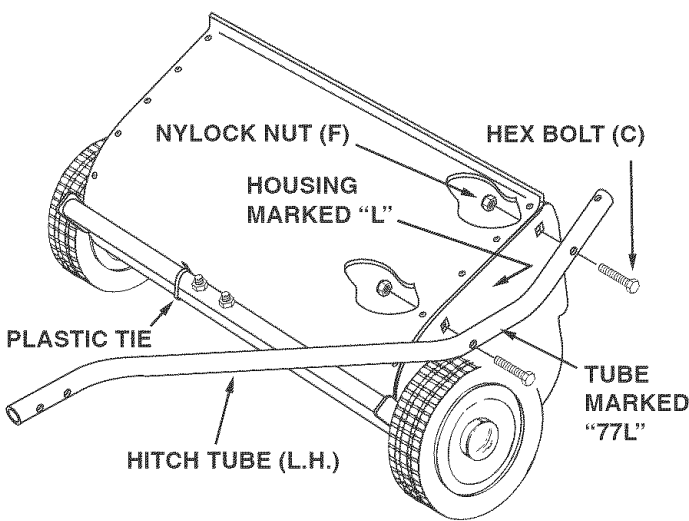
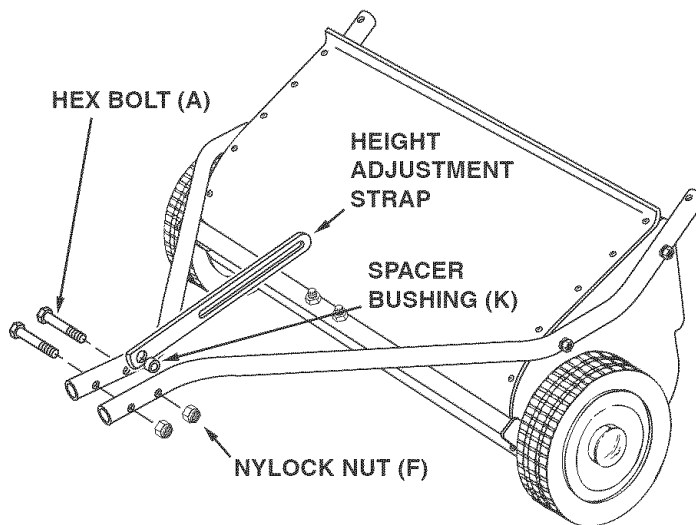
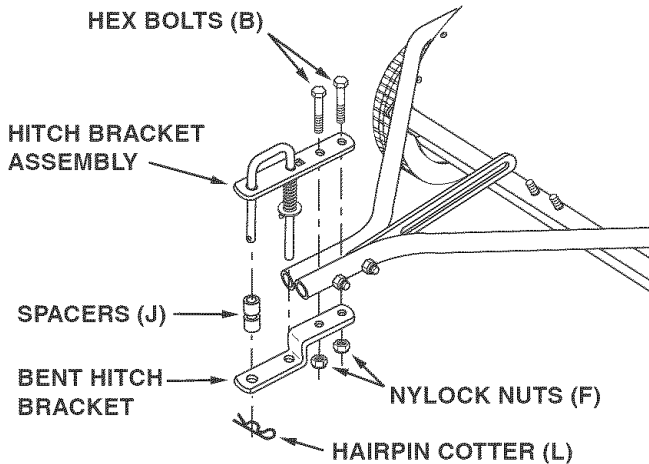

FIGURE 1
FIGURE 2
FIGURE 3
- The hitch tubes are stamped with a "77L" for the left tube and a "76R" for the right tube. The sweeper housing is marked with an "L" on the left with side and an "R" on the right side. See figure 1.
- Hold the left hitch tube against the left side of the sweeper so that the "77L" on the tube faces away from the sweeper. Attach the hitch tube using two hex bolts (C) and nylock nuts (F). Repeat for the right hitch tube, but with the "76R" facing in toward the right side of the sweeper. **Do not tighten yet.** See figure 1.
- Remove the plastic tie that fastens the height adjustment tube to the front of the sweeper housing. See figure 1.
- Place the spacer bushing (I) into the hole in the height adjustment strap. Place the strap and bushing between the hitch tubes, aligning them with the rear hole. Fasten the hitch tubes together, with the strap and bushing between them, using two hex bolts (A) and nylock nuts (F). **Do not tighten yet.** See figure 2.
- If the tractor hitch is less than 10" above the ground, place the bent hitch bracket underneath the hitch tubes and place the hitch bracket assembly on top of the hitch tubes. Insert two hex bolts (B) through the brackets, with the rear hex bolt between the cross bolts in the hitch tubes. Secure the hex bolts (B) with two nylock nuts (F). See figure 3. **Do not tighten yet.**
- Assemble the two spacers (J) onto the hitch pin and secure the pin with the hairpin cotter (L). See figure 3.
- **Tighten** the four bolts in figure 1 that fasten the hitch tubes to the sweeper housing. Next, **tighten** the two bolts in figure 2 that fasten the ends of the hitch tubes together. Finally, **tighten** the two bolts in figure 3 or 4 that fasten the hitch brackets to the hitch tubes.